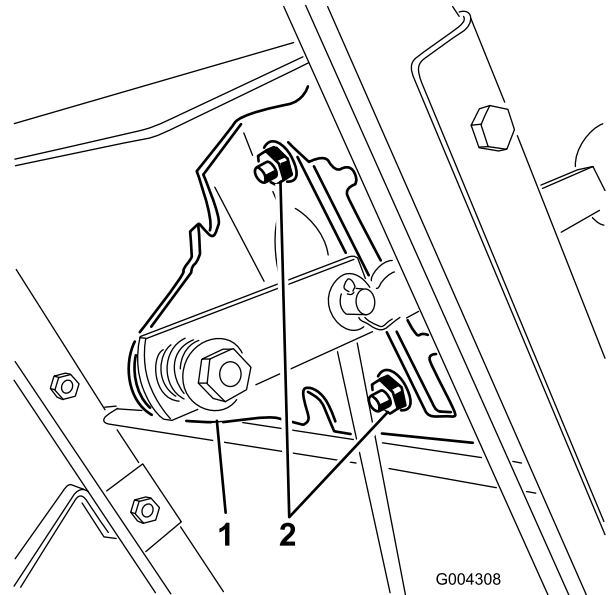
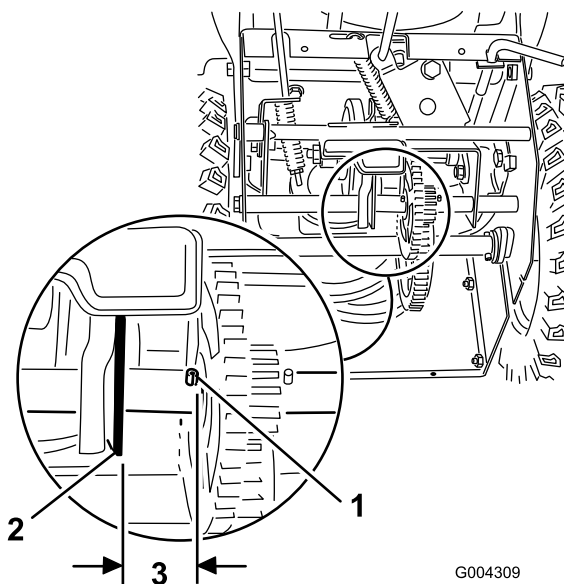

Figure 29
Figure 30
4. Loosen the flange nuts that secure the selector plate to the control panel (Figure 29).
Note: The drive assembly should be 1/8 inch (3 mm) from the roll pin; if not, slide the selector plate (Figure 29) until the gap is 1/8 inch (3 mm); refer to Figure 30.